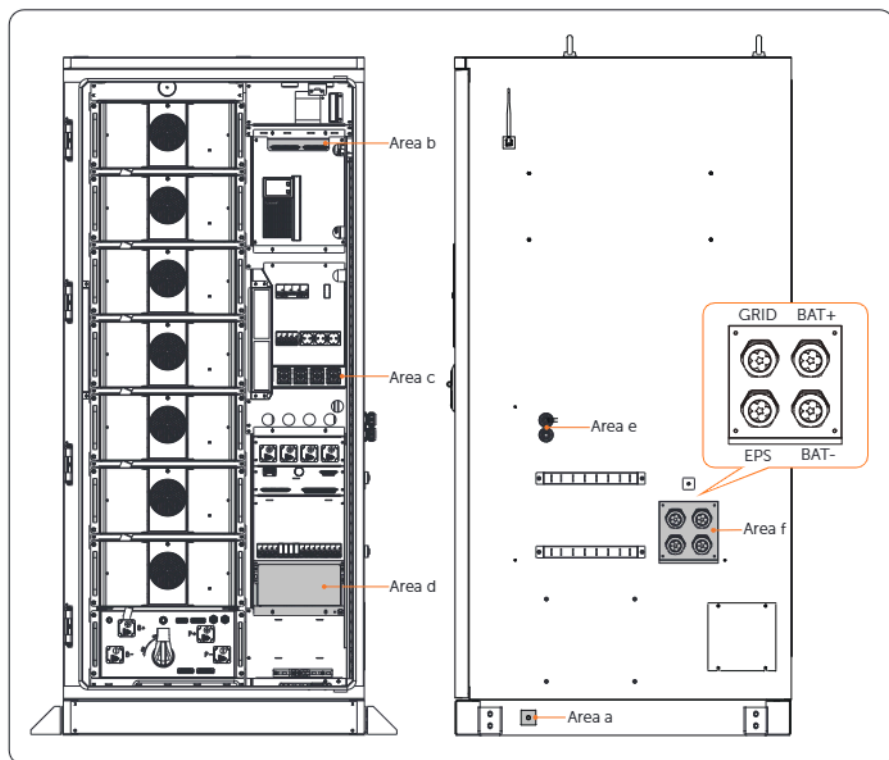

Figure 7-1 Wiring area
- Before wiring, operators are required to learn which parts need to be conducted wiring. For details, please refer to Figure 7-1.
The Grid and EPS cables of the inverter outlet from the battery cabinet from the Grid and EPS port of **part f** in "Figure 7-1 Wiring area", please strictly follow the steps below.